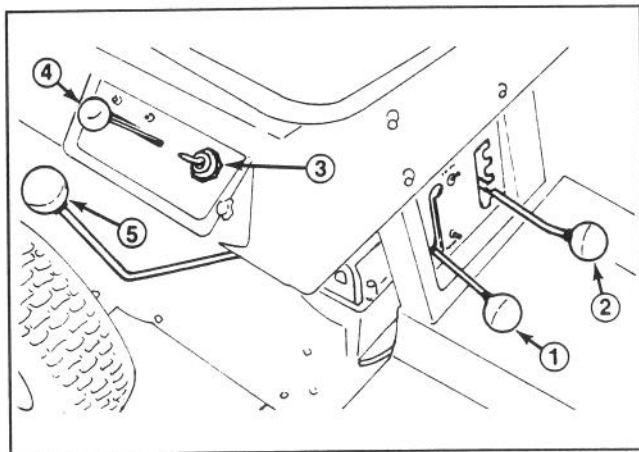

Figure 5
Gear Shift (Fig. 5)
Blade Control (Fig. 5)
Throttle Control (Fig. 5)
Height-of-Cut (Fig. 5)
Ignition Switch (Fig. 5)
2. Move the gear shift into NEUTRAL and the blade control into DISENGAGE detent (Fig. 5).
3. Move the throttle control to the CHOKE position (Fig. 5) when starting a cold engine. However, a hot engine requires no choking. Move the throttle to the FAST position for starting.
4. Rotate the ignition key (Fig. 5) to the START position. When the engine starts, release the key and move the throttle between FAST and SLOW if you used the choke.
1. Move the blade control into the DISENGAGE detent (Fig. 5).
2. Move the height-of-cut control (Fig. 5) into the desired setting.